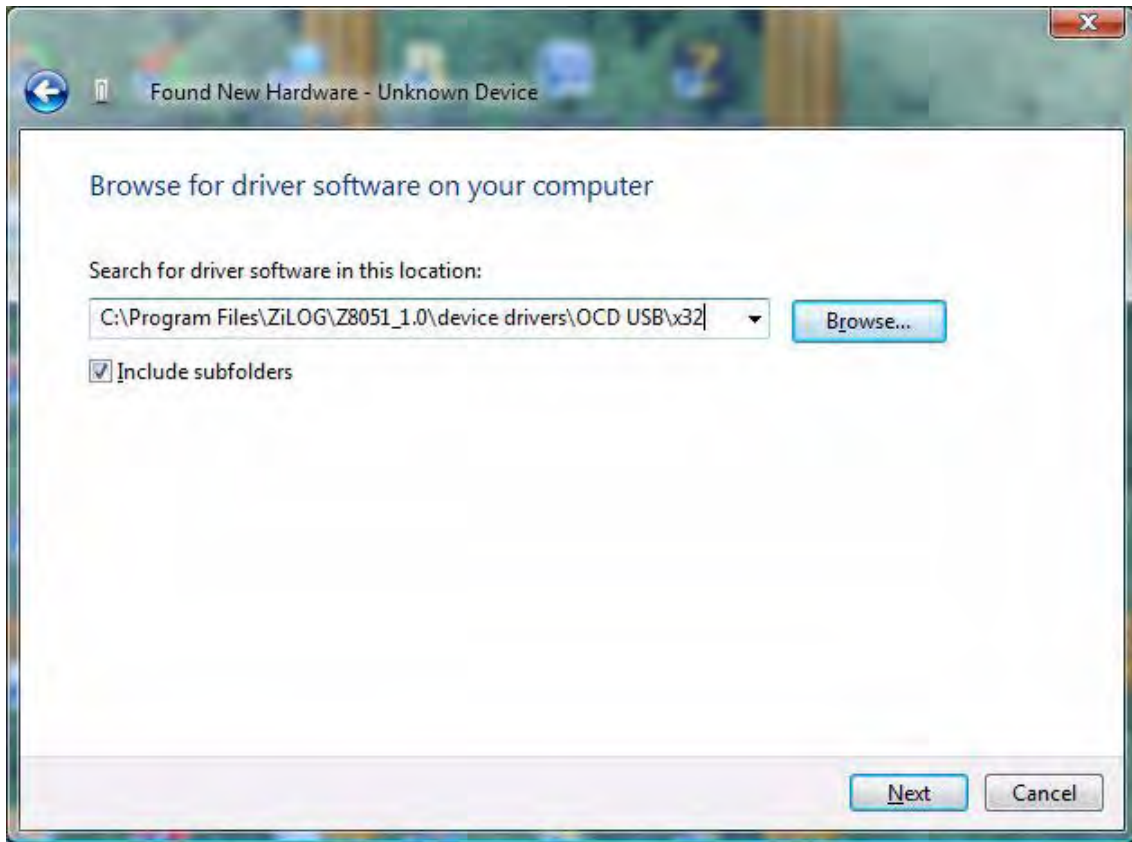

Figure 19. Browse For Driver Dialog, Windows Vista
5. Select **Browse my computer for driver software (advanced)** to display the dialog shown in Figure 19, which prompts you to key in or browse for the location of the .inf file. Depending on the type of computer you use (32-bit or 64-bit), use the **Browse** button to navigate to one of the following paths, then click the **Next** button.